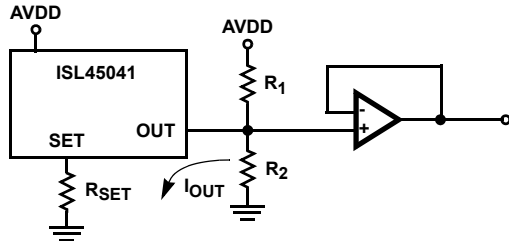
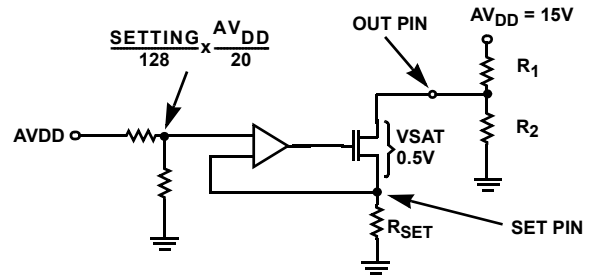

FIGURE 2. OUTPUT CONNECTION CIRCUIT EXAMPLE
FIGURE 3. OUTPUT CONNECTION CIRCUIT EXAMPLE
**Electrical Specifications** Test Conditions:  $V_{DD} = 3.3V$ ,  $AV_{DD} = 18V$ ,  $R_{SET} = 5k\Omega$ ,  $R1 = 10k\Omega$ ,  $R2 = 10k\Omega$ ; (See Figure 2) Unless otherwise specified. Typicals are at  $T_A = +25^\circ C$ . **Boldface limits apply across the operating temperature range, 0°C to +85°C.**
**Electrical Specifications** Test Conditions:  $V_{DD} = 3.3V$ ,  $AV_{DD} = 18V$ ,  $R_{SET} = 5k\Omega$ ,  $R1 = 10k\Omega$ ,  $R2 = 10k\Omega$ ; (See Figure 2) Unless otherwise specified. Typical values are at  $T_A = +25^\circ C$ . **Boldface limits apply across the operating temperature range,  $0^\circ C$  to  $+85^\circ C$ .** (Continued)
The external  $R_{SET}$  resistor sets the full-scale sink current,  $I_{SET}$  maximum, that determines the lowest voltage of the external voltage divider  $R_1$  and  $R_2$  (Figure 2). The voltage difference between the OUT pin and SET pin (Figure 3), which are also the drain and source of the output transistor, must be greater than 1.75V. This will keep the output transistor in its saturation region to maintain linear operation over the full range of register values. Expected current settings and 7-bit accuracy occurs when the output MOS transistor is operating in the saturation region. Figure 3 shows the internal connection for the output MOS transistor. The value of the  $AV_{DD}$  supply sets the voltage at the source of the output transistor. This voltage is equal to  $(\text{Setting}/128) \times (AV_{DD}/20)$ . The  $I_{SET}$  current is therefore equal to  $(\text{Setting}/128) \times (AV_{DD}/20 \times R_{SET})$ . The drain voltage is calculated using Equation 2. The values of  $R_1$  and  $R_2$  (Equation 2) should be determined using  $I_{OUT}$  maximum (setting equal to 128) so the minimum value of  $V_{OUT}$  is greater than  $1.75\text{V} + AV_{DD}/20$ .